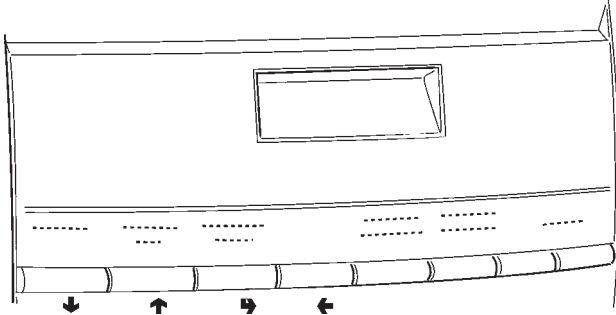

Fig. 21
- External direct selection push-button panel which takes on the following functions when in "Filler" and "Technician" mode (see Fig. 21):